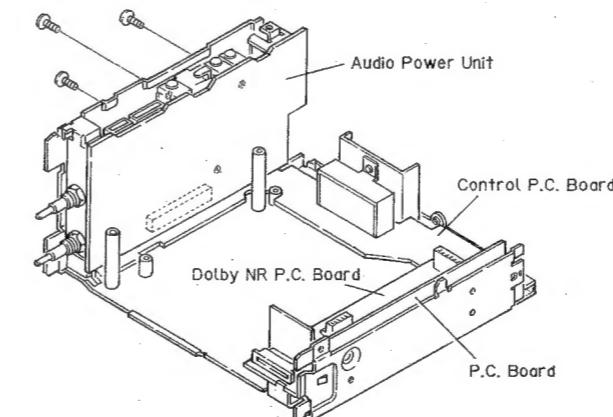

Fig. 12
• **Removing the Audio Power Unit (Fig. 12)**
• **Removing the P.C. Board (Fig. 12)**
• **Removing the Dolby NR P.C. Board (Fig. 12)**